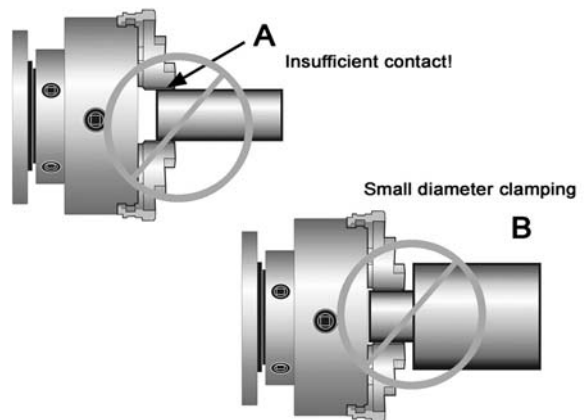

Figure 26 – Improper setups
- Avoid short clamping contact (Figure 26, A) or clamping on a minor part diameter (Figure 26, B). Face-locate the workpiece for added support.